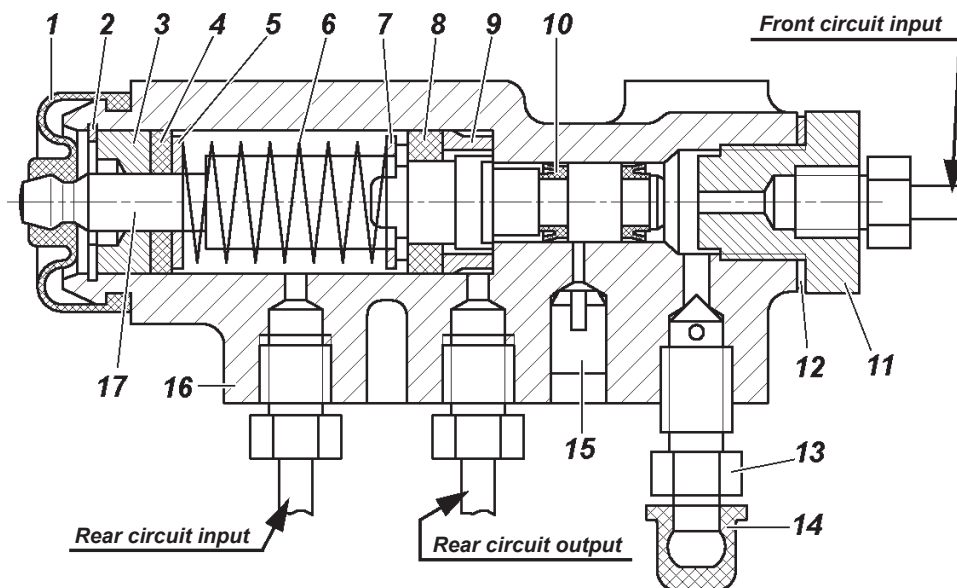
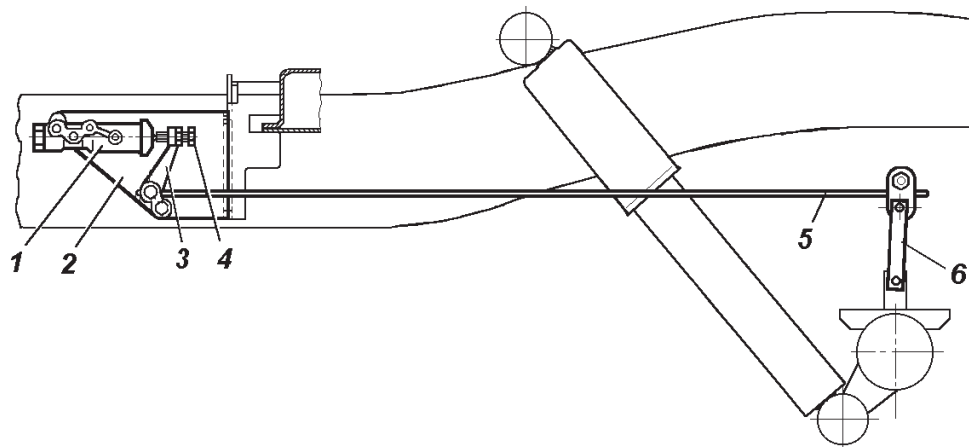

Fig. 9.36. Proportioning valve:
Fig. 9.37. Proportioning valve drive:
Proportioning valve (Fig.9.36). During maintenance, check the function of the proportioning valve. Clean it from the dirt and check the safety of its fastening. Visually inspect that the proportioning valve and its parts have no damage, there is no leakage of the brake fluid and no backlashes in the pillar coupling with the resilient lever and the real axle bracket.
During the operation and replacement of back leaf-springs, adjust the force of flexible arm 5 (Fig. 9.37) to the valve piston. For adjustment do the following:
3. Tighten bolt 4 (see Fig. 9.37) until it touches the regulator piston end 17 (see Fig. 9.36) by screwing the adjusting bolt for 1...1 1/3 turn (6-8 flats of the bolt head).
5. Check adjustment correctness during motion of the vehicle. While going on a straight level road with a dry surface, brake the vehicle until the wheels lock. If the valve is in order and drive adjustment was done correctly, the front wheels should be blocked slightly earlier than the rear ones. If the rear wheels are blocked earlier, unscrew bolt 4 (see Fig. 9.37) by 1-2 flats of the bolt head and check the brakes in motion again.